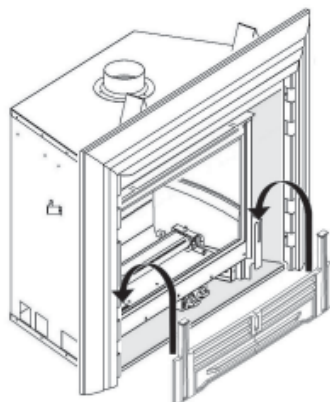

Fig. 10
3. Hook the cast iron fret onto the retainers mounted to the heater if using the RA24DS or FS Inner Trims. Note: Other inner trims include the retainers. **See Fig. 10.**